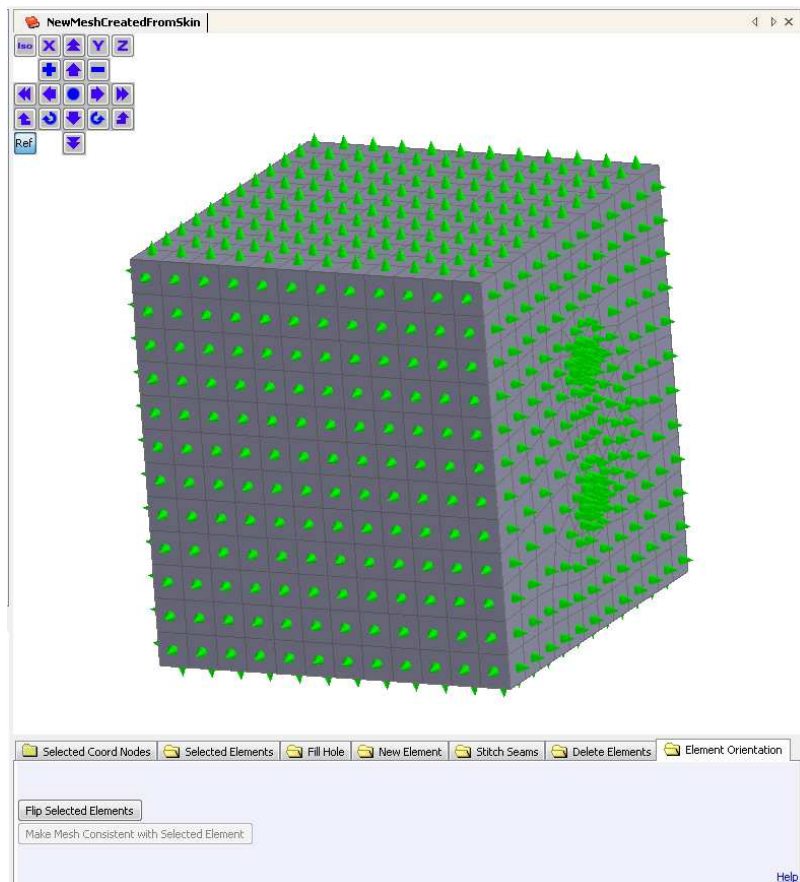

Figure 21: Element orientations.
- From the tabbed windows located below the mesh select: **Element Orientation** to view the direction of element normals (refer to Figure 21). The green arrow indicates the positive direction and the red arrow indicates the negative direction of the normal. Here, all the element normals are coming out of the mesh. By definition the positive side of the mesh is defined as the side with positive element normals.